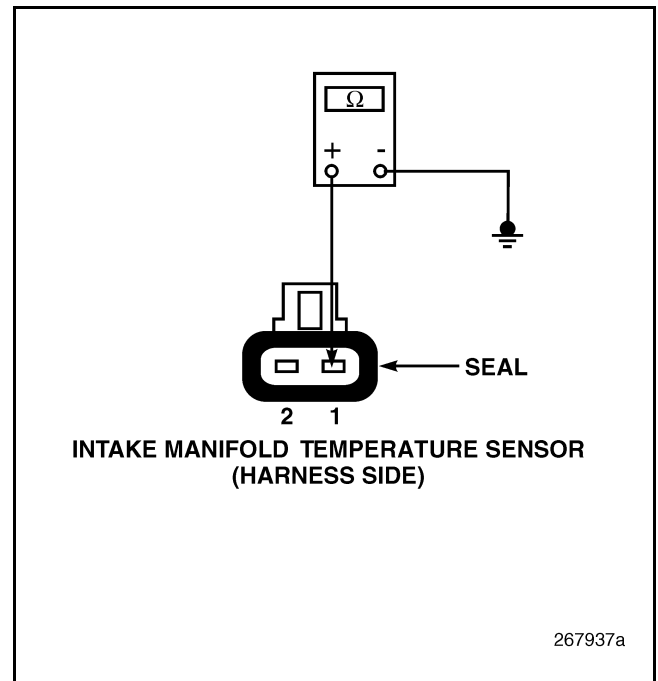

Figure 218
4. Check for continuity between pin 1 of the IMT Sensor harness connector and a good ground (see Figure 218).